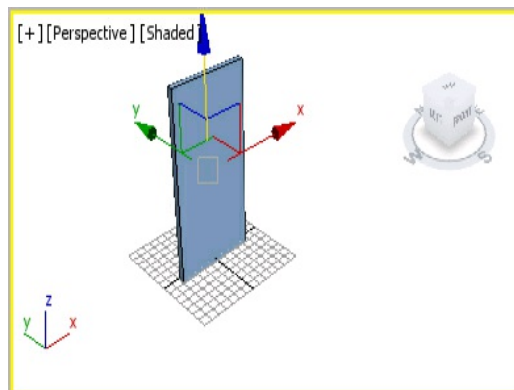

Figure 16-56 Alignment of back support with the grid
5. Choose the **Select and Move** tool and move *back support* so that it is placed exactly on the grid in the Perspective viewport, as shown in Figure 16-56. This grid acts as a ground plane in the simulation.